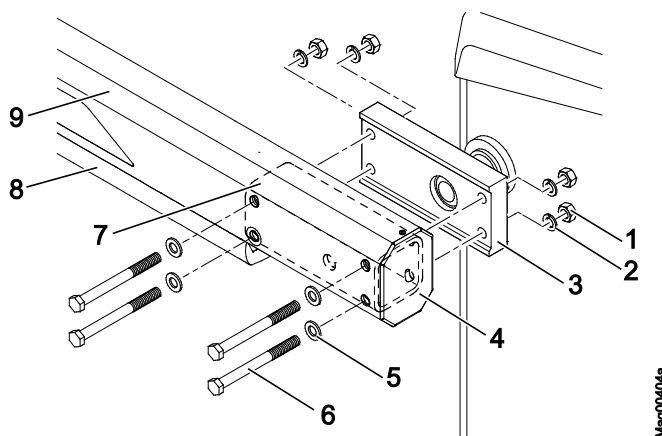

Fig. 44: Remove barrier arm
19. Install the barrier arm with two persons with the horizontal flange. → See page 86, Fig. 44.